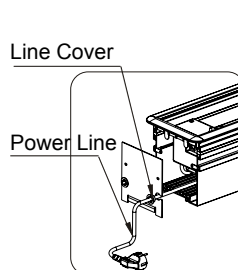

Figure 9
- While the End Plate is removed you can feed the power cord through the rubber grommet (figure 9).